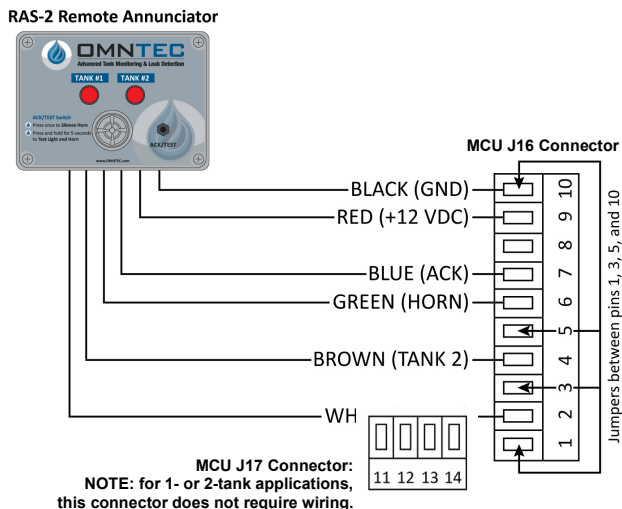

Figure 1.3.3
3.2. RAS-2 High-Level Alarm Wiring (refer to Figure 1.3.3 and Table 1.3.3) *Same applies when using (2) RAS-1-NYS*